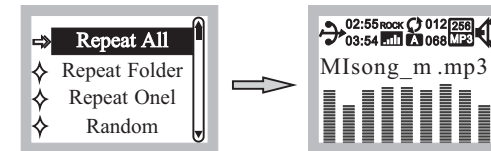

Fig. 12
(F) Repeat Mode: Press PRV/TEN or NEXT/TEN to select parameter, Fig. 12.